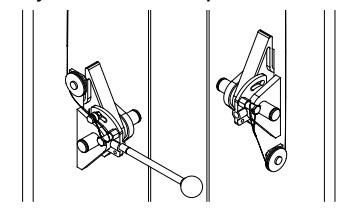

Fig 8 – Lock Assembly
- 28) Attach Mechanical Lock Release Cable Assembly to each lock pawl. See **Fig 8.**